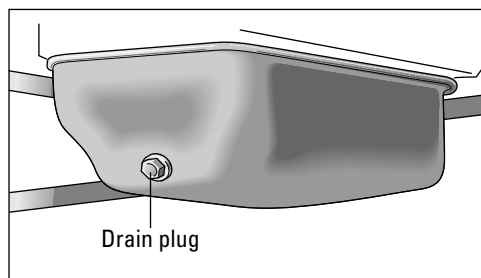

Figure 13-6: The drain plug is located at the bottom of your oil pan.
4. **Use a work light or flashlight to look under your car. You should be able to see and reach a large nut or plug located under the oil pan at the bottom of the engine (see Figure 13-6).**